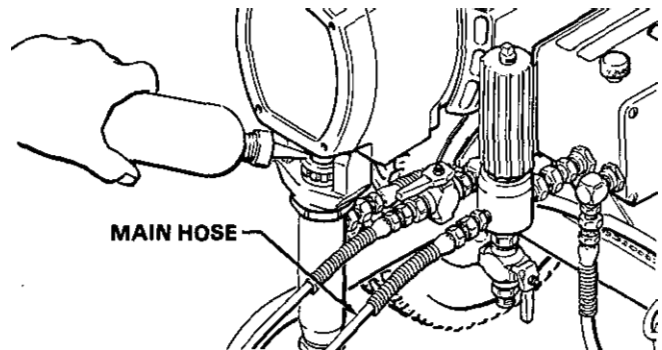

Fig 3
3. Fill Packing Nut/Wet-Cup (See Fig 3.)